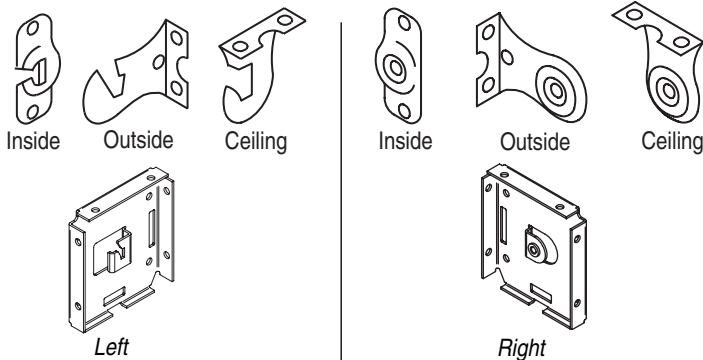

Figure 1
- ① Mark wall, jamb or ceiling for placement of mounting brackets.
- ② Drill small starter hole (if necessary) in mounting surface.
- ③ Mount brackets using appropriate fasteners for surface (see Fig. 1 for bracket/endcap types).